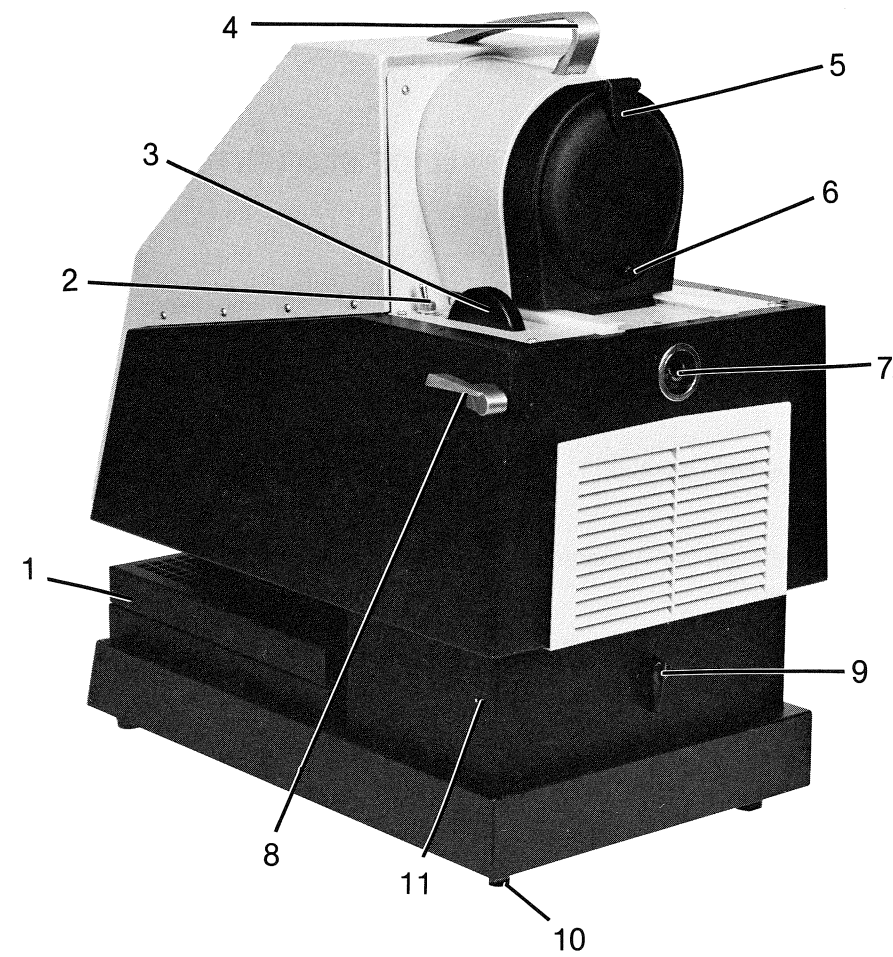
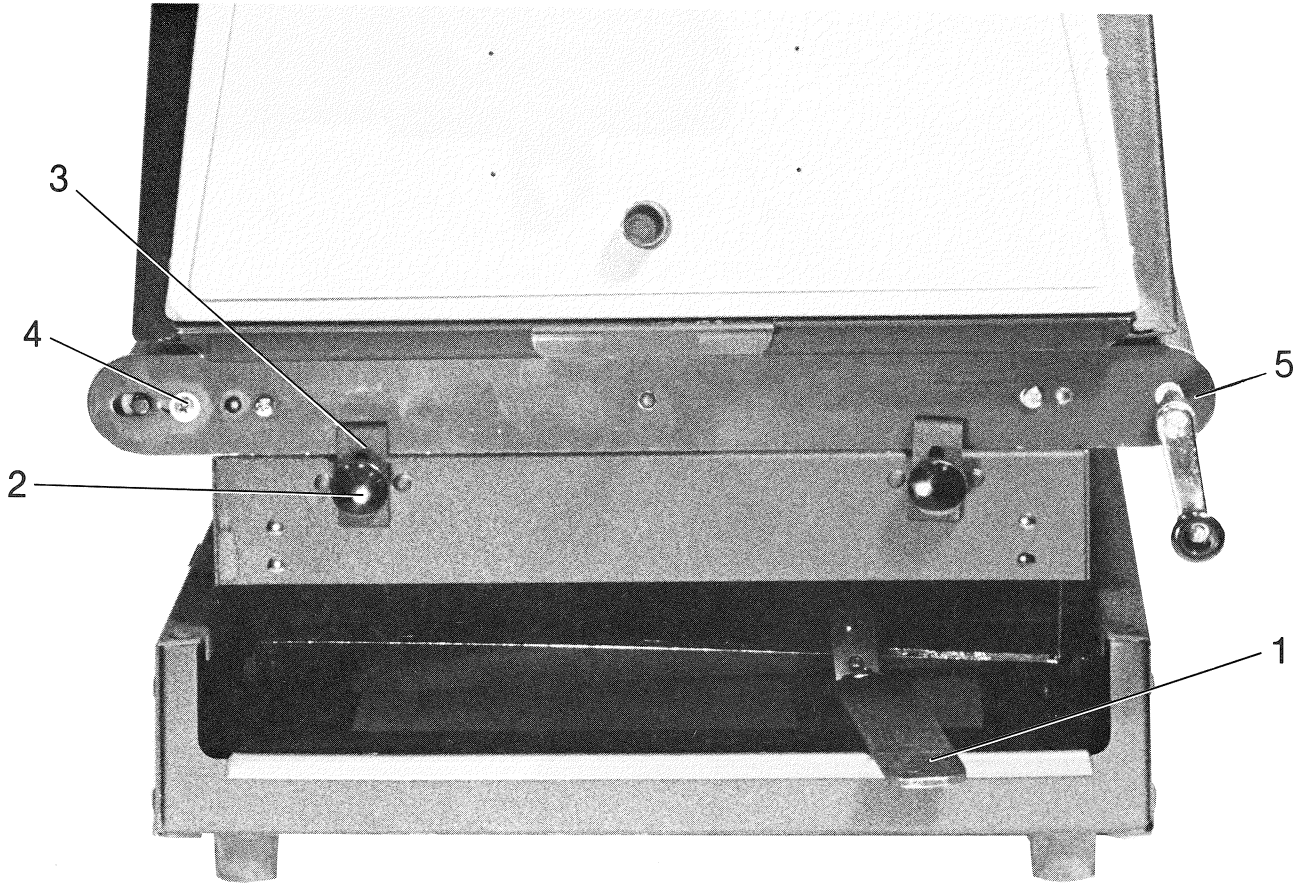

Figure 1 — Vu-Lyte IV with Principal Parts Identified
Figure 4
- (a) Release Elevating Lock Handle (9, Fig. 1) by turning handle counterclockwise.
- (b) Turn Adjusting Screw (11, Fig. 1) with a 5/32" Hex Key clockwise to tighten and counterclockwise to loosen the leg lock.
Figure 1 shows the Vu-Lyte IV with the principal parts identified.
Open the lens cover (5, Fig. 1). Turn the switch (2, Fig. 1) to "on" position. Lower the platen by moving the undercarriage actuating lever, (1, Fig. 4) to the left. Place some copy on the Vacumatic platen (bottom of the copy toward the screen) and focus it on the screen. To focus the Vu-Lyte IV, simply revolve the focusing wheel (3, Fig 1) until a sharp image is obtained on the screen. Adjust the screen laterally by swinging the projector to one side or the other. To adjust the screen image vertically, release the leg lock by turning the knob (9, Fig. 1), counterclockwise. Adjust the projector until the screen image is centered properly and lock in position by turning the locking knob clockwise.
Lower the Platen by moving the undercarriage actuating lever (1, Fig. 4) to the left. Place the material on the Platen and move the lever to the right as far as it will go.
- (h) If a powerstat is not being used to lower the voltage, then place a dense filter over the pointer window to protect your eyes from the bright light. Look into the pointer window (7, Fig. 1). You will be looking at the movable mirror (4, Fig. 8) and by adjusting it, you will be able to look down the tube (3, Fig. 8). Adjust the pickup mirror (2, Fig. 8) until the arrow appears in the center of the tube. If the arrow is too high or too low, revolve the pointer tube (3, Fig. 8) until it is centered. If the arrow is displaced to the left or right, then adjust the angular position of the pickup mirror (2, Fig. 8).
Loosen the screws (4, Fig. 4) on each end of the idler roller. Move idler roller for desired belt tension and tighten screws. (Note: Equal tension should be maintained on both ends of the idler roller).
To insert the Feedomatic, (5, Fig. 4) simply lower undercarriage, moving actuating lever (1, Fig. 4) to the left as far as it will go. Loosen the two mounting screws (2, Fig. 4), disengage the two latches (3, Fig. 4) and remove the platen. Slip the Feedomatic into its place, engage latches in slots and tighten the two mounting screws.